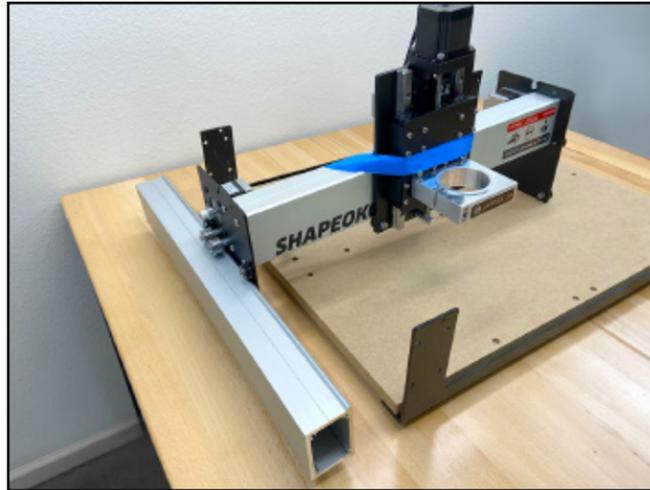

Figure 4-5
1. Slide the V-rails of the Y1-rail between the four (4) V-wheels of the Y1-carriage. Center the rail between the front and rear endplates. See **Figure 4-5**.